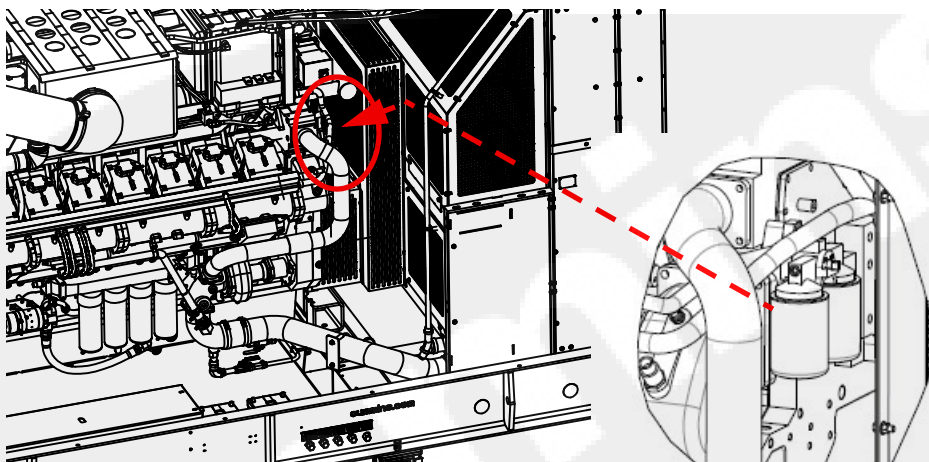

Figure 7-26 GenSet coolant filters (GenSet right side)
The GenSet coolant filters (2) are located behind the radiator as shown in Figure 7-26.